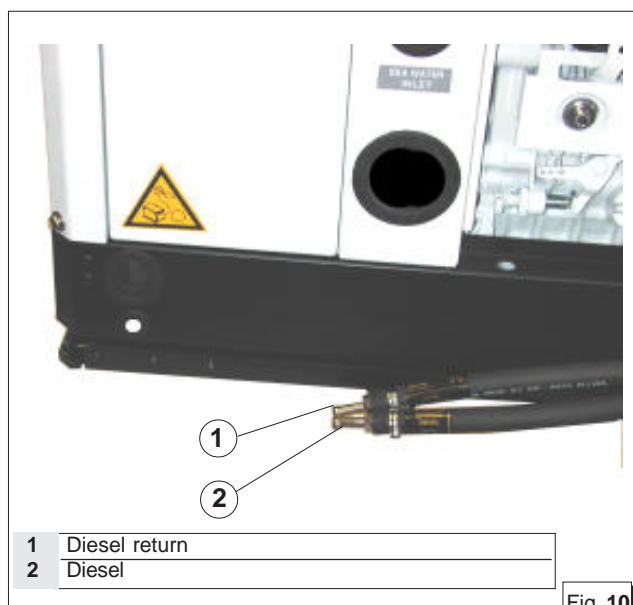

Fig. 10
The unit is fed by diesel fuel through the tubes marked "DIESEL" and "DIESEL RETURN" (fig.10, ref.1-2). This latter is used for the return of the excess fuel. **It is necessary to install a filter in connections to the fuel tank**, it is also advisable to fit a tap onto the power supply line downstream of the tank and a single-acting valve (check valve only for a difference in height of 50 cm or more) to prevent the fuel system emptying for any reason. Use a valve with a 50 millibar opening. The fuel pipes should be in hydrocarbon-resistant rubber, of inner diameter 6 mm.